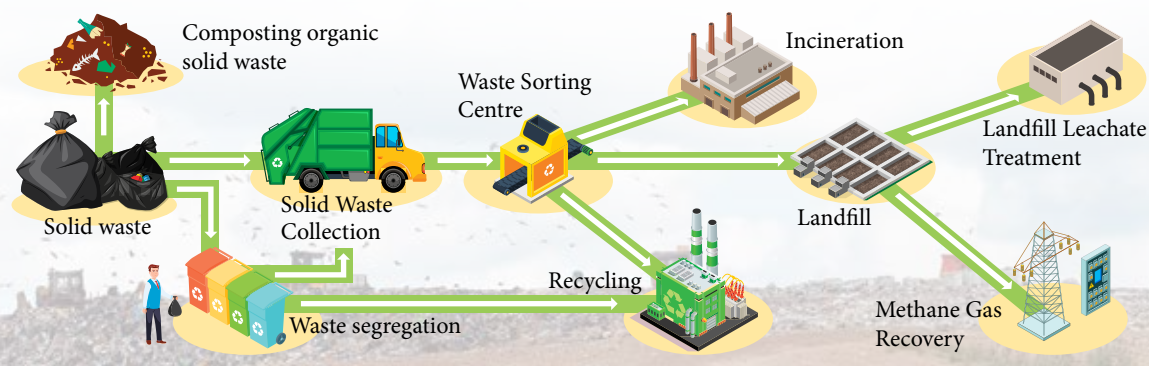

Figure 5.25 Green Technology in various stages of waste management.
- Figure 5.25 shows the stages in waste management. Can you identify the stage of waste management that utilises Green Technology?